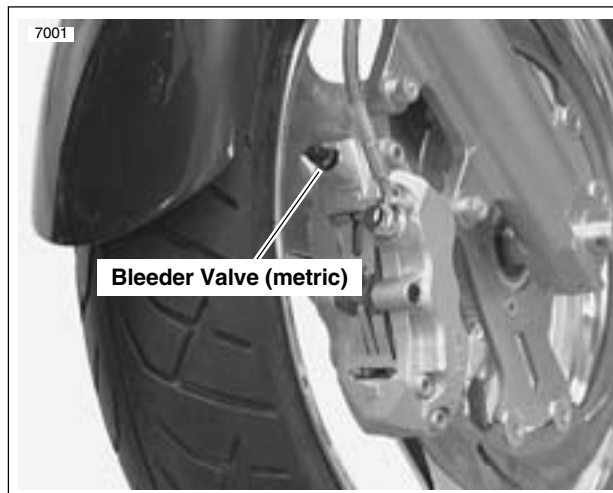

Figure 2-18. Draining Front Brake System (Typical)
1. See Figure 2-18. Drain brake fluid into a suitable container. Discard of used fluid according to local laws.